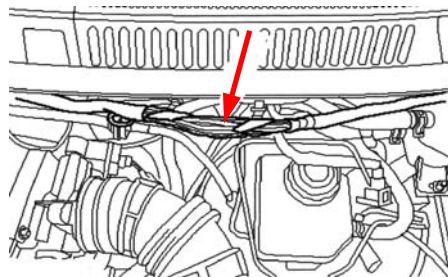
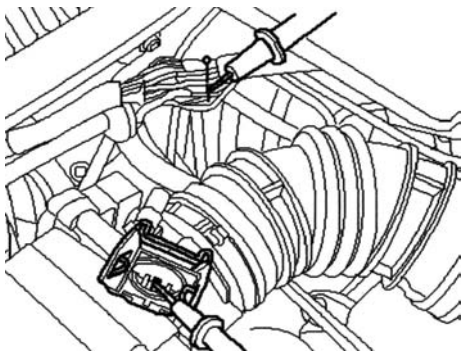

Fig. 2
Fig. 3
- Remove the insulation from the cable loom (top of engine compartment, see Fig. 2). As the cable colours for the sensor can be found repeatedly in the cable loom (white cable 2x, brown-red cable 2x), the correct cables must be identified with the aid of a multimeter (continuity check, see Fig. 3).